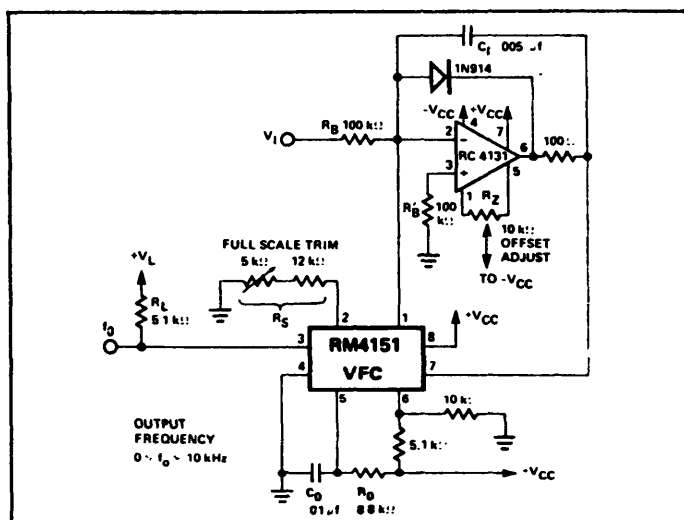

#### Figure 4. Precision Voltage-to-Frequency Converter Single Supply
**Figure 3** shows the simplest type of VFC that can be made with the 4151. Input voltage range is from 0 to +10V, and output frequency is from 0 to 10kHz. Full scale frequency can be tuned by adjusting  $R_S$ , the output current set resistor. This circuit has the advantage of being simple and low in cost, but it suffers from inaccuracy due to a number of error sources. Linearity error is typically 1%. A frequency offset will also be introduced by the input comparator offset voltage. Also, response time for this circuit is limited by the passive integration network  $R_B C_B$ . For the component values shown in Figure 3, response time for a step change input from 0 to +10V will be 135msec. For applications which require fast response time and high accuracy, use the circuits of Figure 4 and 5.
For applications which require a VFC which will operate from a single positive supply with positive input voltage, the circuit of Figure 4 will give greatly improved linearity, frequency offset, and response time. Here, an active integrator using one section of the RC403A quad ground-sensing op-amp has replaced the  $R_G$ - $C_B$  network in Figure 3. Linearity error for this circuit is due only to the 4151 current source output conductance. Frequency offset is due only to the op-amp input offset and can be nulled to zero by adjusting  $R_B$ . This technique uses the op-amp bias current to develop the null voltage, so an op-amp with stable bias current, like the RC403A, is required.